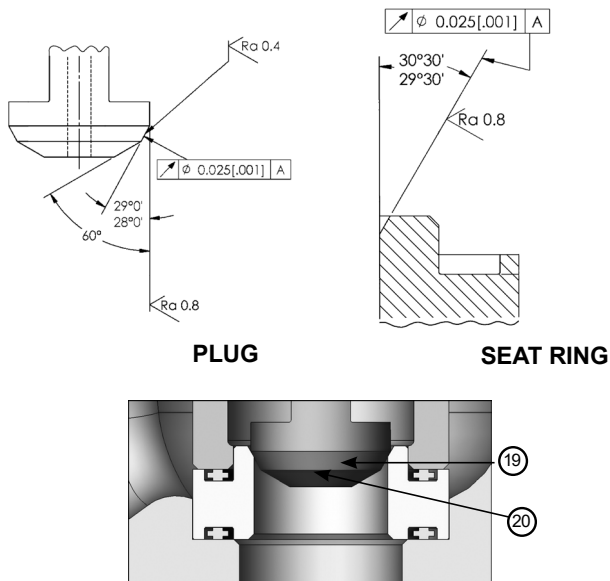

Figure 3: Plug and Seat Ring Seating Surfaces
Seating surfaces may need to be lapped in order to restore the necessary surface integrity to meet valve leakage requirements. A maximum of .015" (0.4mm) metal removal from both the plug and seat surfaces is allowable for any valve size. Make sure the seating angles on the reworked parts are within the specified tolerances as shown in the Figure 3 below. Parts requiring more metal removal to restore shall be discarded and replaced.
10. After lapping, disassemble the parts to clean them and then reassemble, making sure the seating angles are within tolerance. See Figure 3.